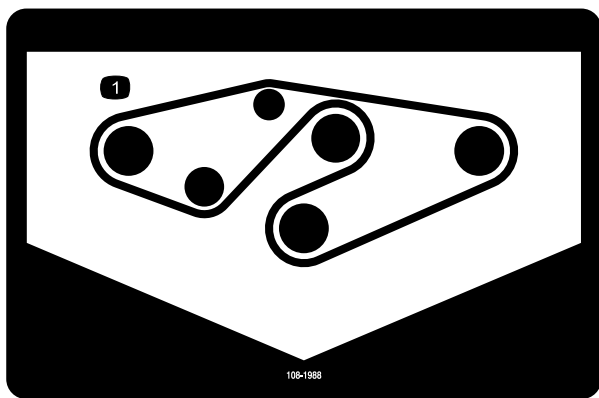

Figure 34
4. Route the new belt around the spindle pulleys and idler pulley assembly as shown in Figure 34.